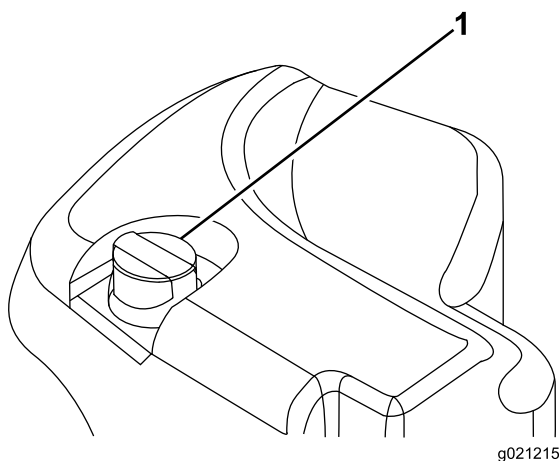

Figure 31
- Mobil EAL Envirosyn H 46 (US)
2. Clean area around filler neck and cap of hydraulic tank (Figure 31).